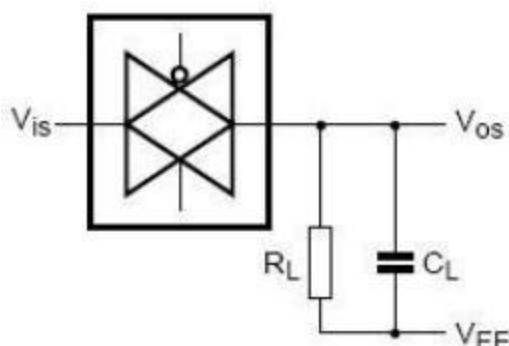

Figure 9. Square wave distortion degree of cut-off frequency and conduction frequency test pattern
- [3] $R_L=1\text{k}\Omega$; $C_L=5\text{pF}$, channel off, $20\log Vos/Vis=-50\text{dB}$, see Figure 9.
- [4] $R_L=1\text{k}\Omega$; $C_L=5\text{pF}$, channel on, $20\log Vos/Vis=-3\text{dB}$, see Figure 9.